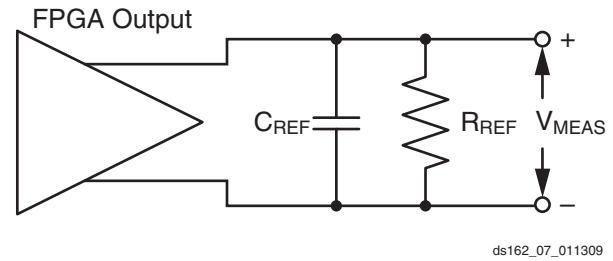
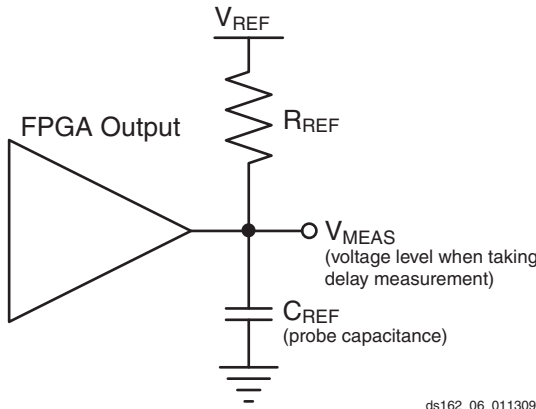

Figure 5: Differential Test Setup
Figure 4: Single-Ended Test Setup
4. This is an input voltage reference that bears no relation to the V_{REF} / V_{MEAS} parameters found in IBIS models and/or noted in Figure 4.
Output delays are measured using a Tektronix P6245 TDS500/600 probe (< 1 pF) across approximately 4" of FR4 microstrip trace. Standard termination was used for all testing. The propagation delay of the 4" trace is characterized separately and subtracted from the final measurement, and is therefore not included in the generalized test setups shown in Figure 4 and Figure 5.